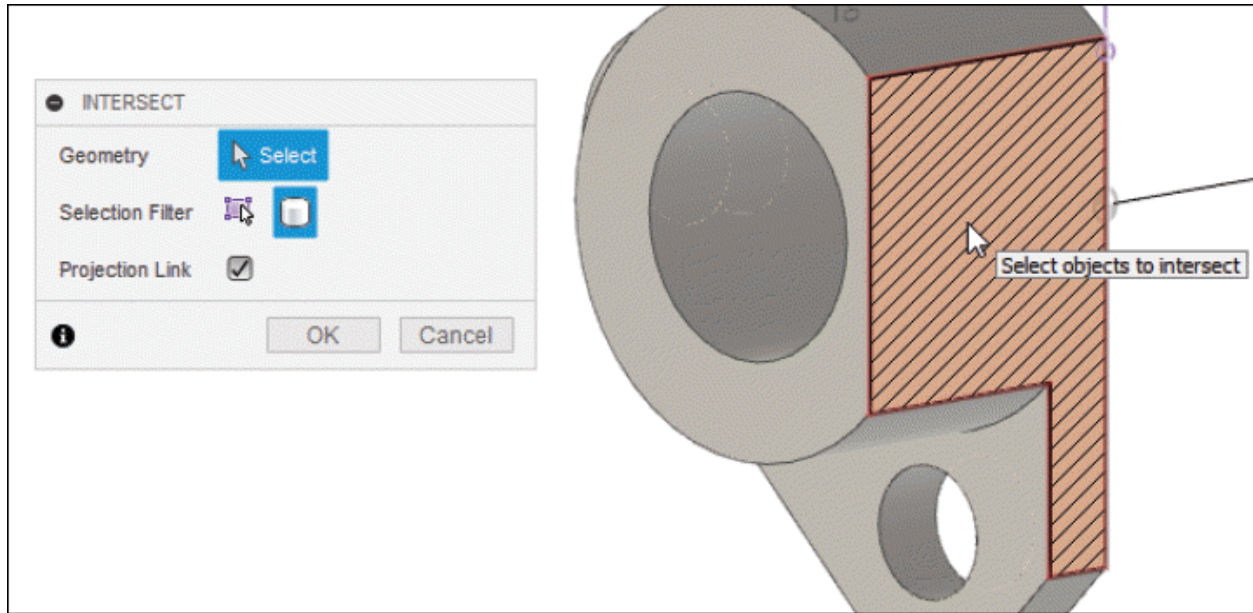

Figure-50. Geometry selected
- The **Select** button of **Geometry** section is active by default. Select sliced part of the model as geometry to be intersect; refer to Figure-50.